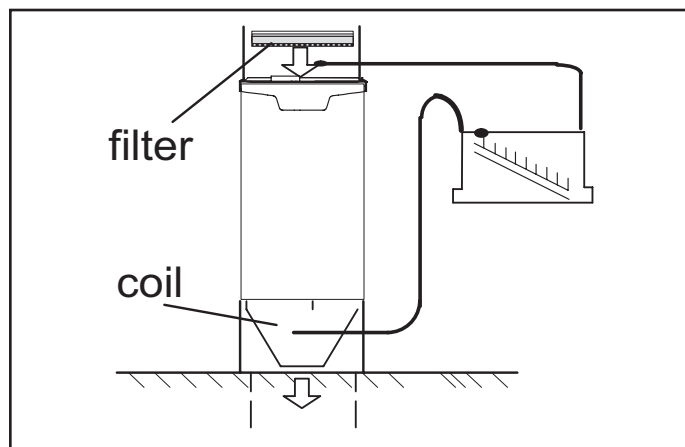

Figure 49. Static Pressure Test
1. Tap locations shown in Figure 49.